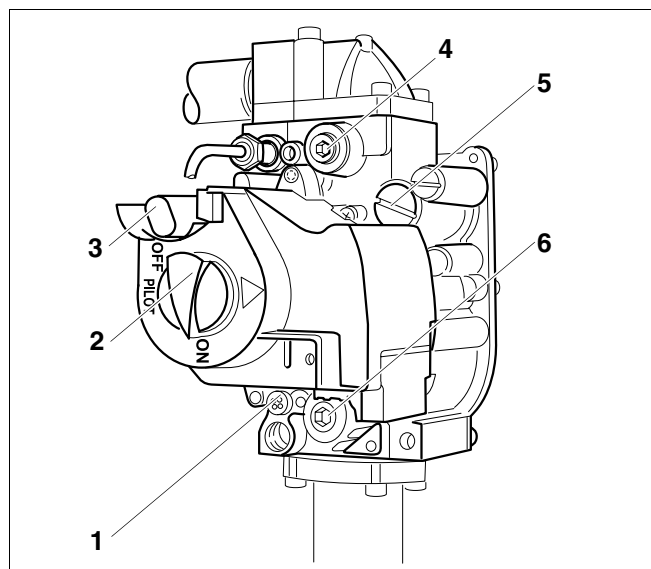

Fig. 37 G124X SP gas valve
46. Remove safety screw for pilot burner pressure setting (→ Fig. 37, page 38). Turn the inner adjustment screw clockwise to reduce the pilot flame and counterclockwise to enlarge the pilot flame.
47. After adjustment tighten the pilot burner pressure adjustment safety screw (→ Fig. 37) again.
48. Turn gas valve ON/OFF switch (→ Fig. 37) counterclockwise to ON position. The gas valve ON/OFF switch can only be set to ON if the red reset button is out.
52. If the main burner has ignited, the gas valve must be checked for leaks with soap solution. If no leaks are found, continue with step 54. If leaks have been found, switch ON/OFF switch on gas valve (→ Fig. 37) clockwise to the OFF position. Disconnect the heating system from the power supply.
56. Turn gas valve ON/OFF button (→ Fig. 37) clockwise to OFF position. The main burner flame and the pilot flame are extinguished.